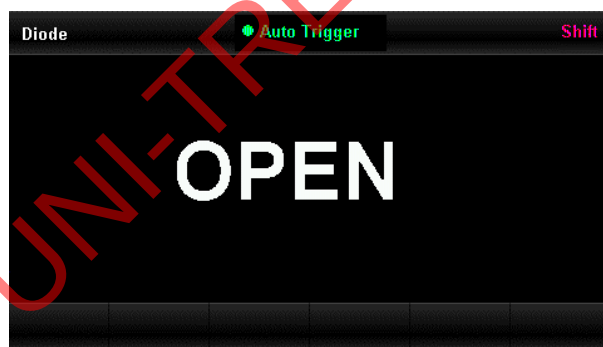

Figure 2-25 Interface of diode measurement
- 1) Press **[Shift]** button and then press **[Diode]** button to enter interface of diode measurement as Figure 2-25.